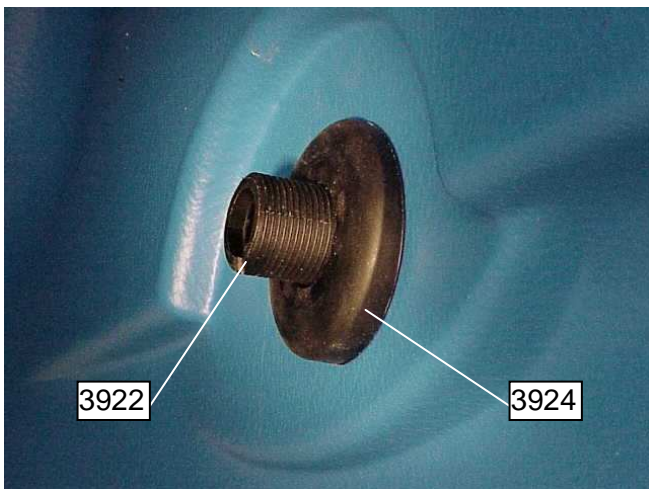

Figure 5.
7. From inside the paddle wheel well, place the 3924 Backing Plate over the 3922 Bushing threads, and insert the backing plate pin through the “F-size” hole in the boat. Ensure the 3924 pin engages the alignment hole in the 3922 Bushing as well. **See Figure 5.**